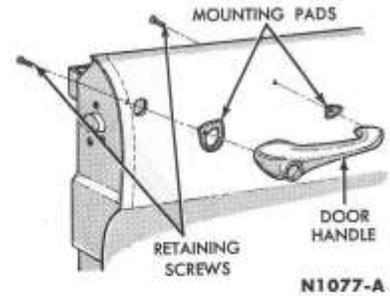

FIG. 10—Outside Door Handle Removal
2. Remove the handle retaining screws (Fig. 10), and remove the handle.